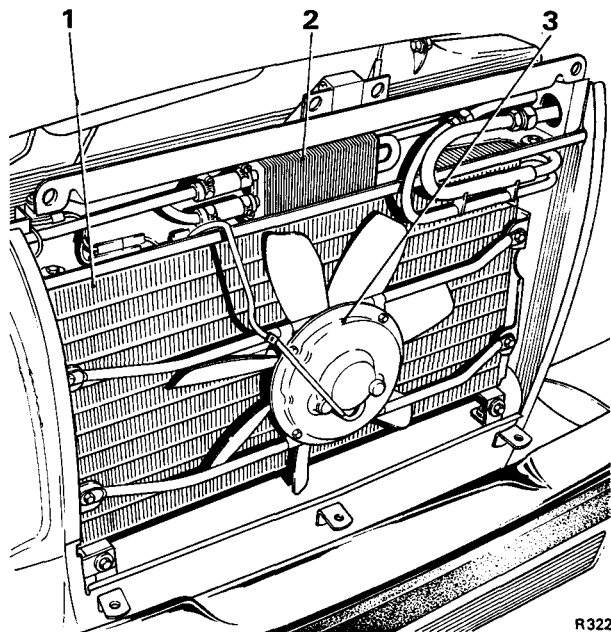

FIG. 9 COOLING SYSTEM BOOSTER FAN
The fan installation is illustrated in Figure 9.
2. Disconnect the electrical feed to the fan by detaching the two 'Lucar' connections situated to the left of the steering pump oil cooler (see Fig. 9).